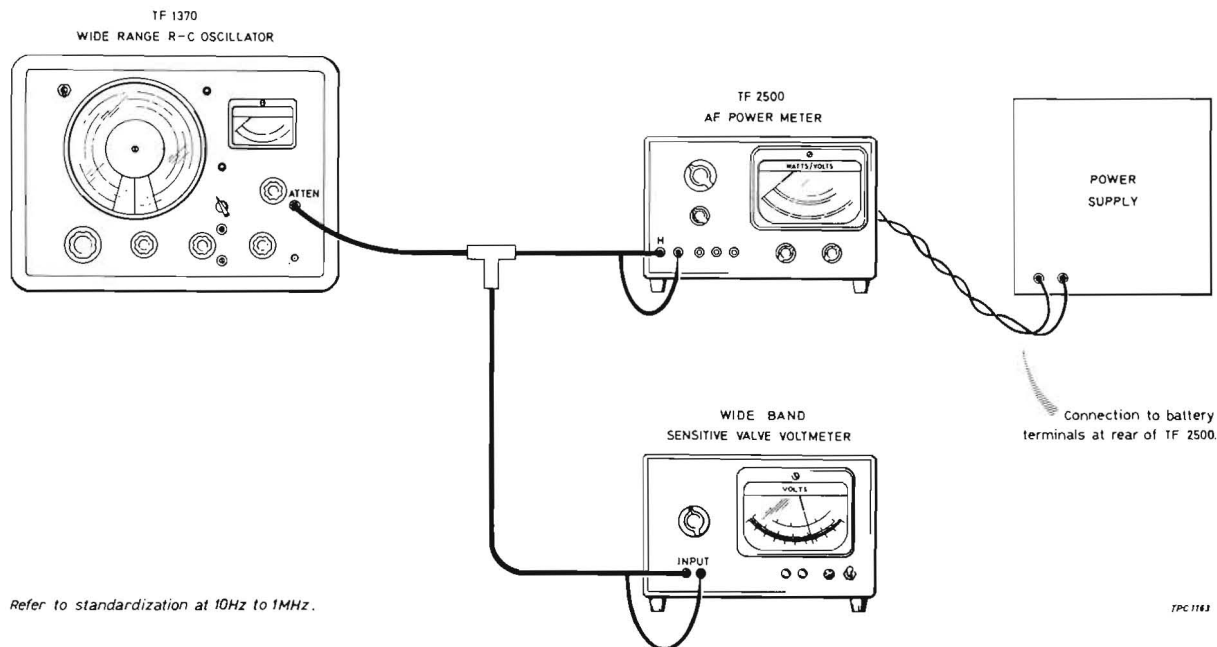

Fig. 5.1 Test gear for voltmeter frequency response
- (1) Connect the test equipment as shown in Fig. 5.1.
- (2) Set the power meter FUNCTION switch to VOLTS and the RANGE control to 0.015 V.
- (3) Set the wide range oscillator to 1 kHz and its output volts selector to 30 mV range. Adjust the oscillator output for a reading of 15 mV on the power meter. Note reading on the sensitive valve voltmeter.
- (4) Swing the frequency continuously through the bands 10 Hz to 1 MHz noting any changes of reading on the power meter and checking, via the sensitive valve voltmeter, that the level of the wide range oscillator output does not change with frequency, compensating with SET OUTPUT if necessary.
- (5) Set C22 to mid-travel and with the input